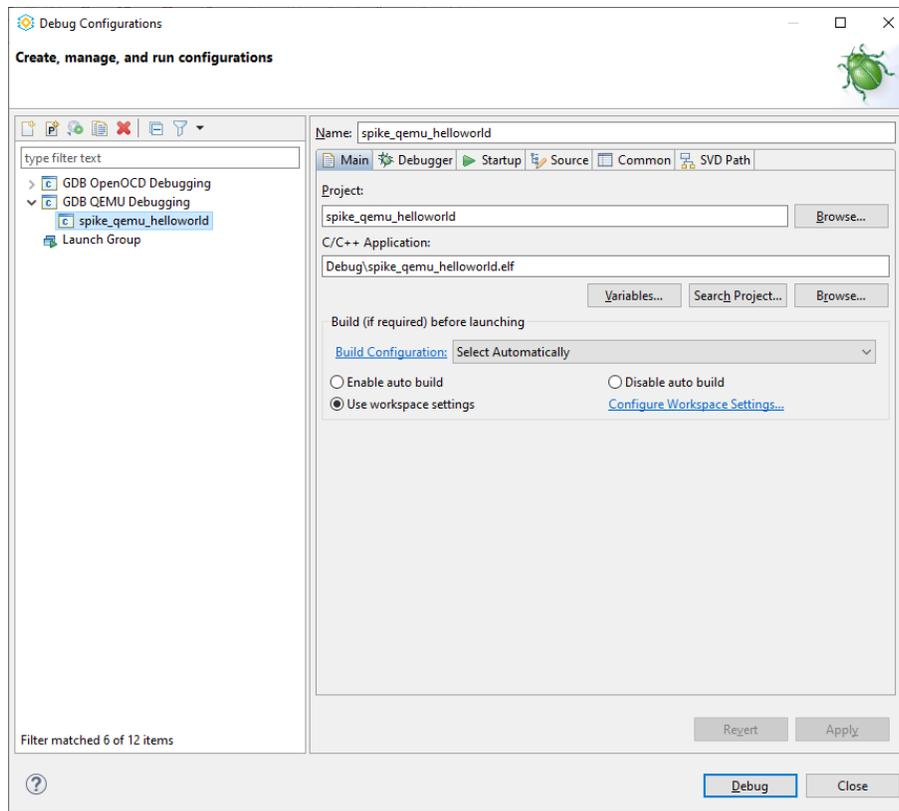

Figure 8.3. Debug Configurations Page
3. Choose `spike_qemu_helloworld` in **GDB QEMU Debugging** (Figure 8.3).